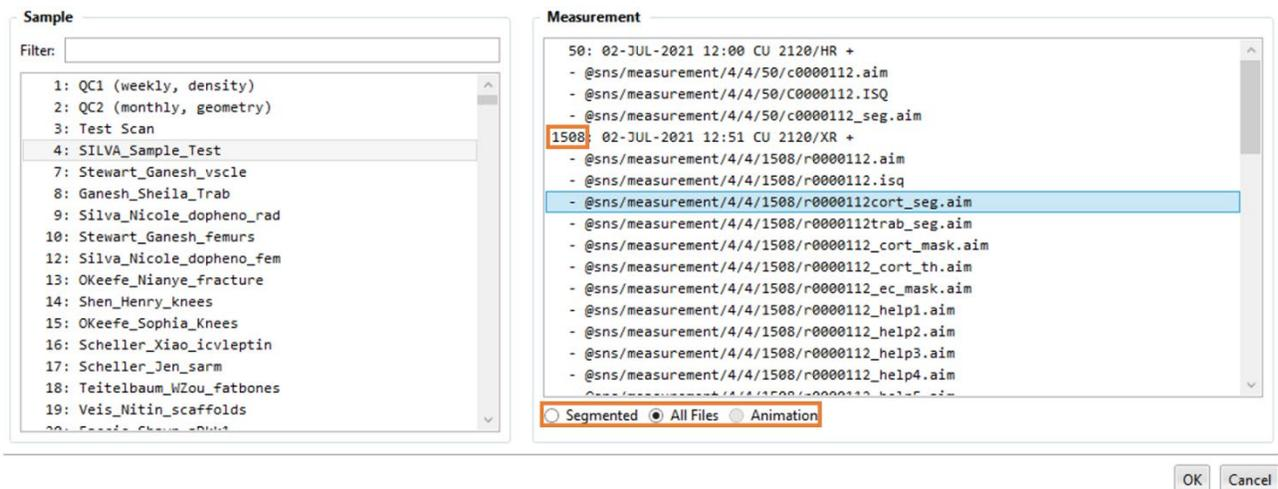

Figure 18: Screenshot of “Select Sample and Measurement...” window depicting a measurement and cortical segmentation selection for 3D viewing.
5. Under the "Contouring" tab, "Clear All" contours → create a contour by creating a shape (usually an ellipse or circle) around a bone of interest at a specific starting slice value. If your drawn contour is slightly off, click "Select," which will allow you to drag the VOI box and the contour → copy (Ctrl + C) the contour and paste (Ctrl + V) it at an ending slice value (this creates a slice range). Again, adjust the contour as necessary to fit around your bone of interest. *Please see Figure 18 for help.*